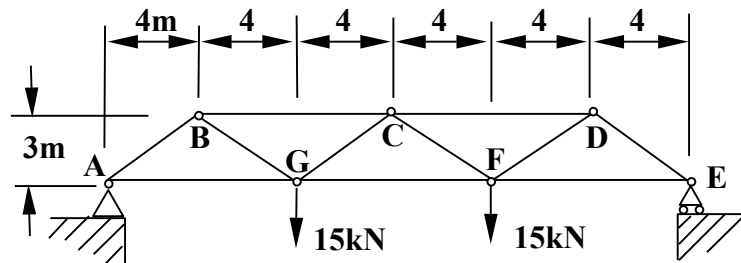

Figure 1
- † 1. Find the support reactions at A and E acting on the truss shown in Fig. 1. Use both the method of joints *and* the method of sections to find the axial forces in the members DE, GF, and GC. Discuss the advantages and disadvantages of each method.